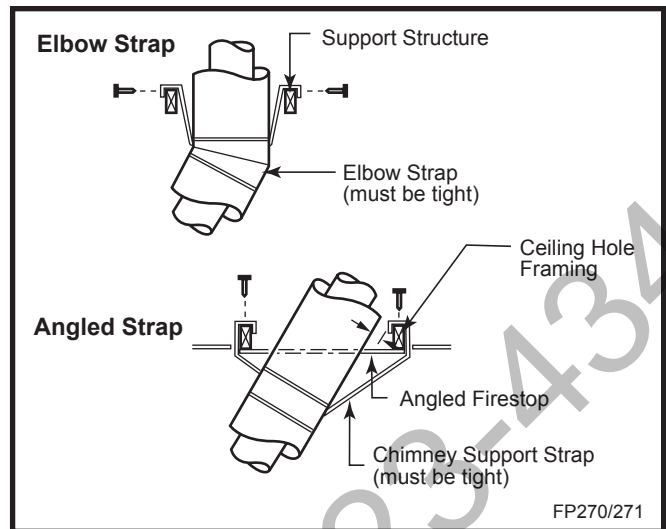

Fig. 32 Attach straps to a structural framing member.
7. Install roof support (Fig. 32) and roof flashing making sure upper flange of flashing is below the shingles.